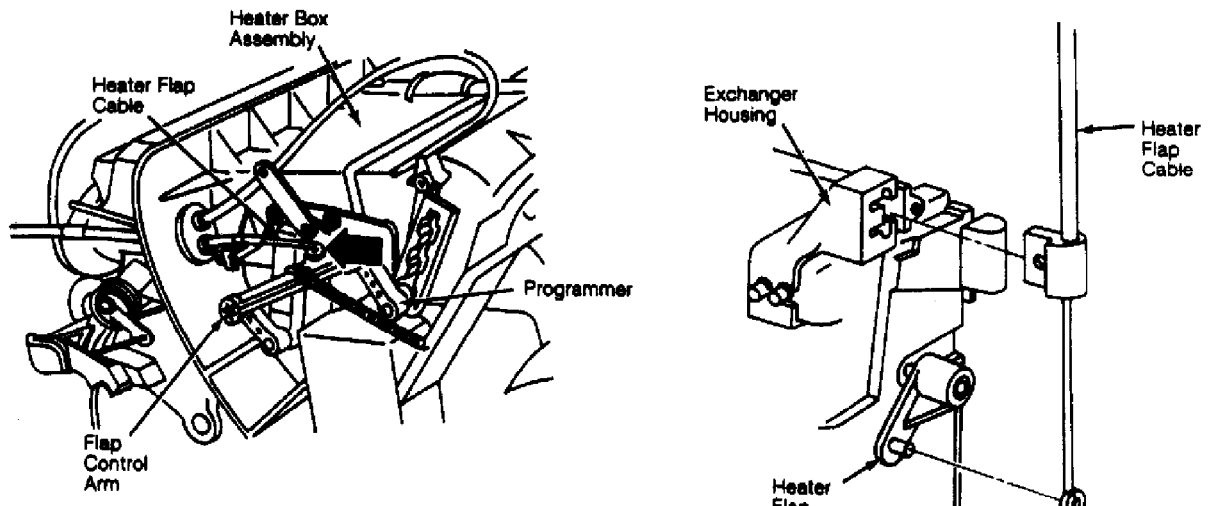

Fig. 14: Heater Flap Control Cable Adjustment
1) Disconnect the heater flap cable at programmer. Inner cable end must not come up against lever arm. See Fig. 14.